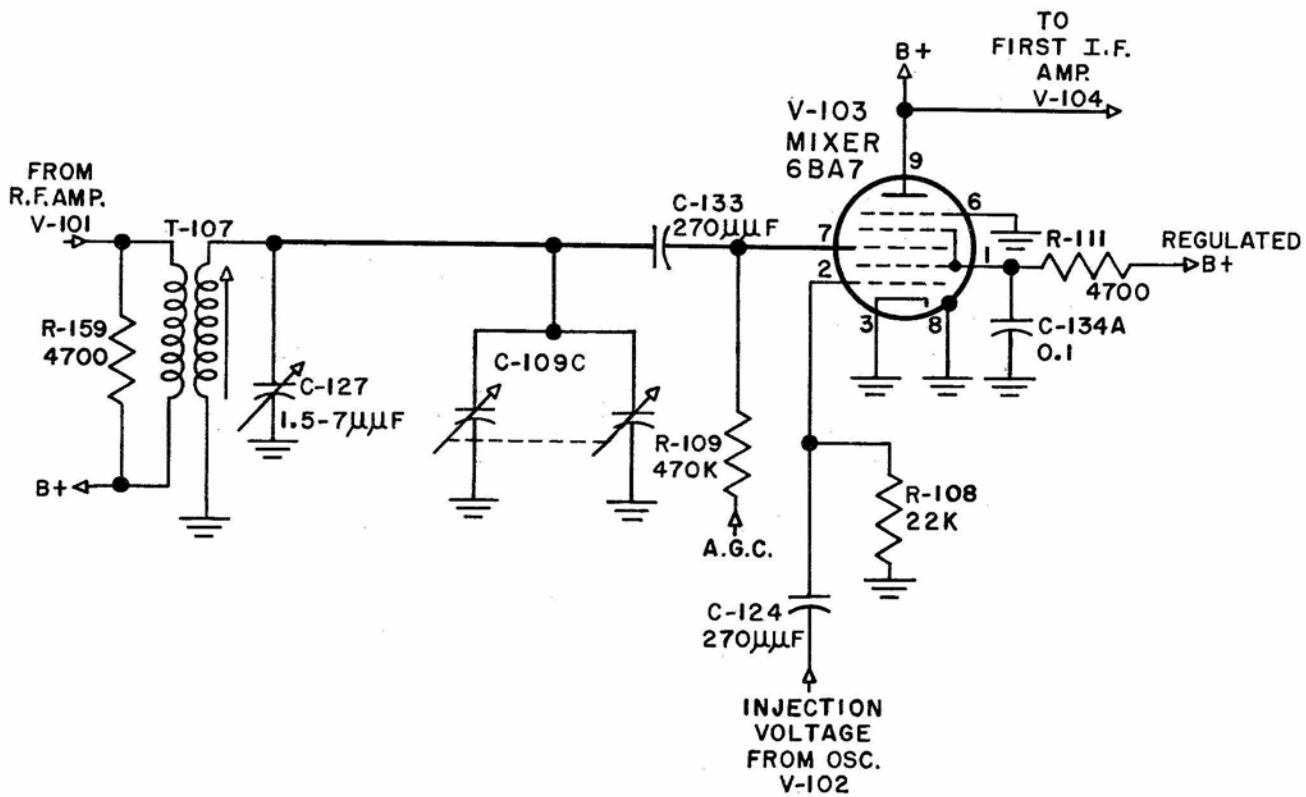

Figure 2-4. Mixer V-103, Simplified Schematic Diagram
d. MIXER V-103 CIRCUIT DETAILS. (See Figures 2-4 and 7-13).—V-103 is a type 6BA7 pentagrid converter used as the mixer tube. Incoming signal voltages, after amplification by R.F. amplifier V-101, are impressed across the primary of the mixer transformer, as selected by switch section S-101D. This switch has six main functions:
(1) To connect the output of R.F. amplifier V-101 to the primary of the mixer transformer of the band in use.
(2) To connect the secondary of the selected mixer transformer to the signal grid (pin 7) of mixer V-103 through coupling capacitor C-133.
(3) To short out the unused mixer transformers.
(4) To connect section C-109C of the Main Tuning capacitor to the selected mixer tuned circuit.
(5) In the SW3 position of the Band Selector switch to connect only the larger stator of C-109C to the tuned circuit and to disconnect the smaller stator.
(6) To connect B+ voltage to the plate of R.F. amplifier V-101.
The signal generated by H.F. Oscillator V-102 is 455 kilocycles higher in frequency than the incoming signal. This signal passes through coupling capacitor C-124 to the injection grid of V-103. The mixing of the oscillator signal with the incoming signal, applied at pin 7, produces a signal similar to the original incoming signal but at frequency of 455 kilocycles which is impressed across I.F. transformer Z-101. Figure 2-4 illustrates the mixer circuit with the Band Selector switch in the BC position. Resistor R-108 is the grid leak resistor for the oscillator injection grid of V-103 and C-134A is the screen bypass capacitor. Plate voltage is obtained through resistor R-113 and the primary of Z-101. (See Figure 7-13.) Regulated B+ voltage is supplied to the screen grids through resistor R-111. Automatic gain control voltage is applied to the signal grid of V-103 through isolating resistor R-109.